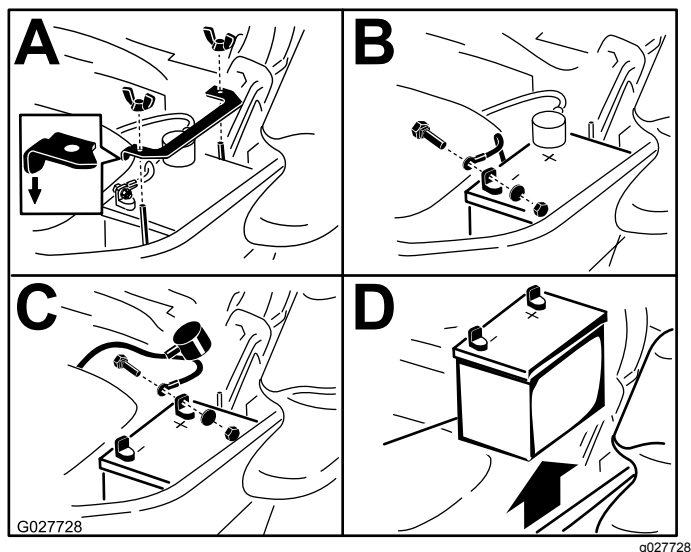

Figure 55
3. Remove the battery as shown in Figure 55.
Note: Position the battery in the tray with the terminal posts opposite from the hydraulic tank (Figure 55).